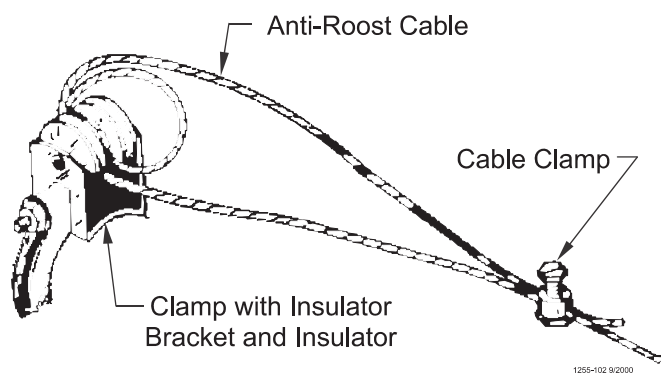

Figure 40. Anti-Roost Cable at the Hopper
2. Start at the hopper end of the line and form a loop around the anti-roost bracket. For best results, make a double loop around the anti-roost insulator in the center groove of the insulator and fasten with a 1/16" cable clamp as shown in **Figure 40**.